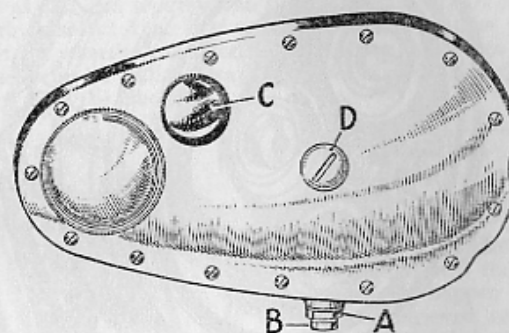
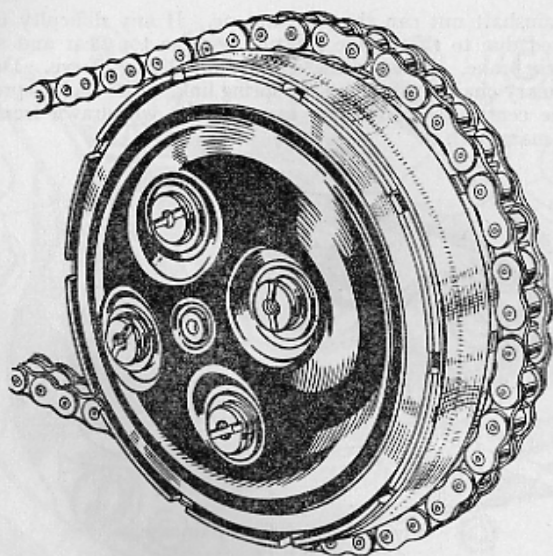

Fig. 11. Primary Chaincase.
Fig. 12. Clutch Spring Arrangement.
After considerable use it may be necessary to increase the spring pressure a little. To do this remove plug (D) Fig. 11, and screw in each of the four adjuster nuts seen in Fig. 12, bringing them into position successively by operating the kick starter, and giving each the same amount of adjustment (say two turns). Withdraw the clutch to ensure that it frees properly and that the end plate does not tilt. If the plate does tilt the clutch will not free properly and the springs should therefore be re-adjusted until the plate remains square when the clutch is withdrawn.
This is fitted with a combined oil level and drain plug. To drain remove the plug by applying a spanner to hexagon (A) Fig. 11. To refill replace the plug and remove screw (B). Fill with seasonal engine oil through the plug hole (C) until it starts to drip out through the hole for screw (B). Then replace screw (B) and plug (C).